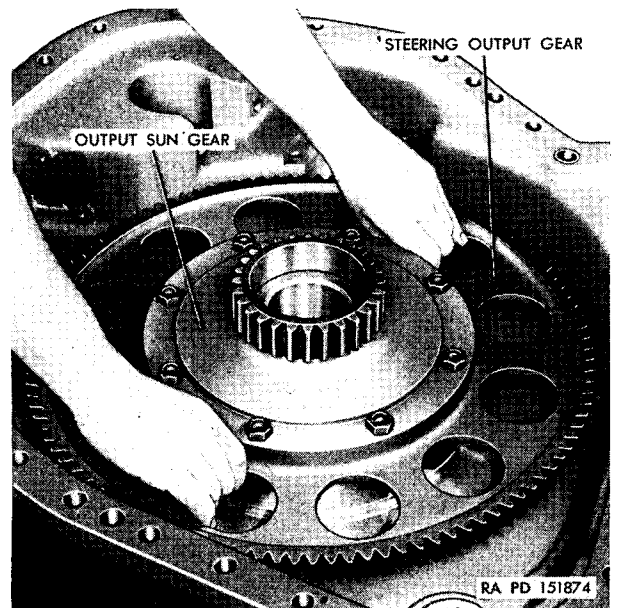

Figure 135. Removing or installing steering-output-gear and output sun gear assembly.
- (3) Remove the steering output pinion and bearing assembly from the outer-bearing race. Then remove the race.
- (4) Lift the steering-output-gear and output-sun gear assembly from the end cover hub (fig. 135). Do not remove the end cover hub unless defective.